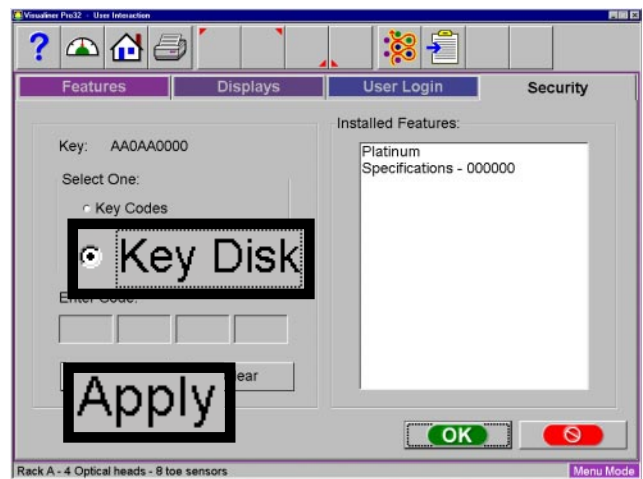

Figure 3-20
4. From the Security Menu select the “**KEY DISK**” radio button. Insert the “**SPECIFICATION KEY DISK**” into the floppy drive and select <**APPLY**>. Once the “**Key Disk**” has been loaded the disk is branded rendering it useless for installations on other units. Store the disk in the cabinet for future installations for this unit only. (Figure 3-20)